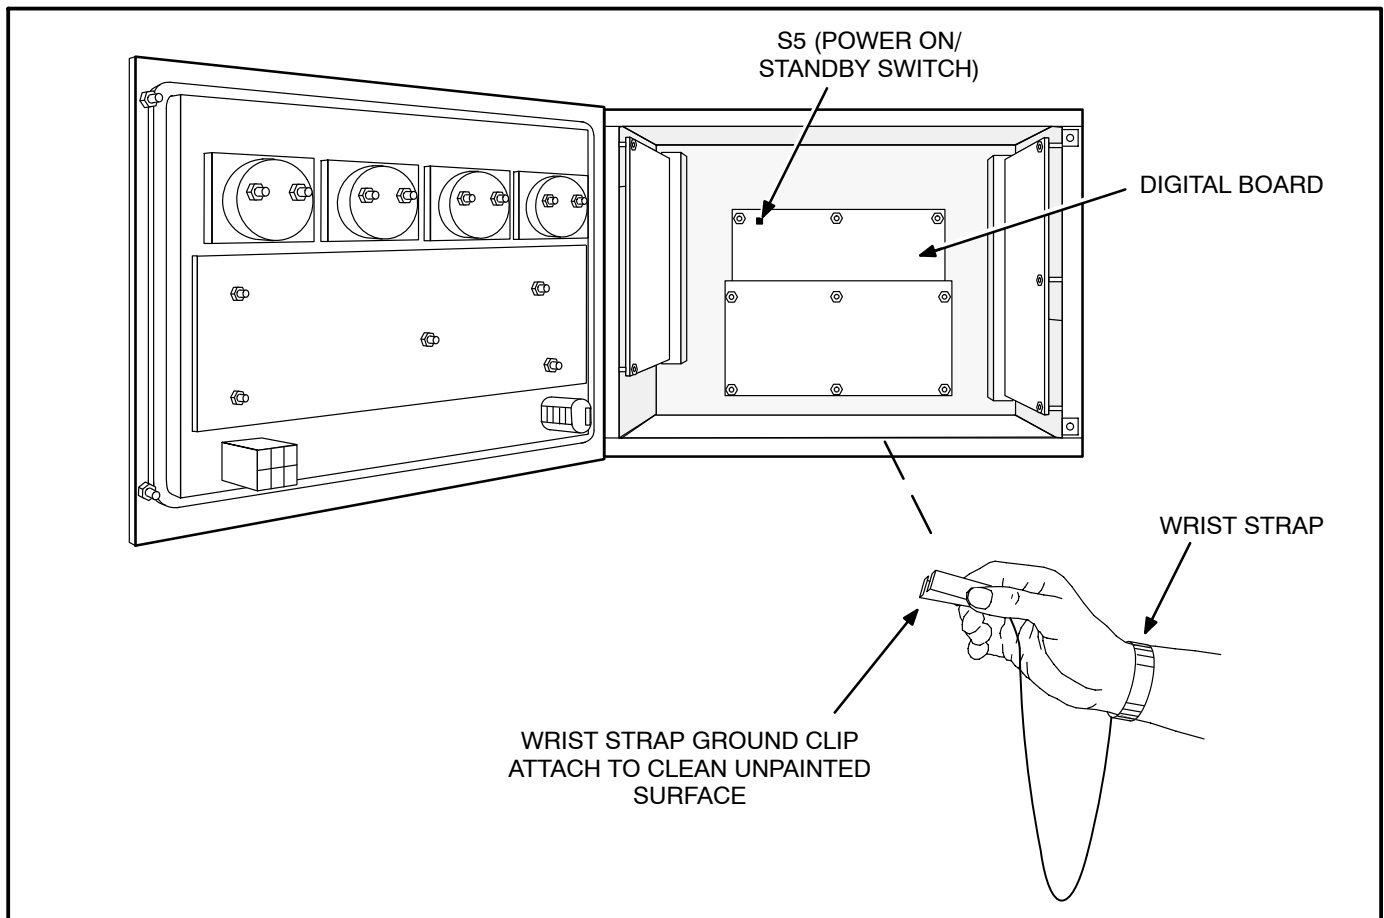

FIGURE 8-2. WRIST STRAP CONNECTION
The GCM is mounted inside the PCC housing. The GCM is powered from the genset battery. It remains powered even when the PCC is “asleep,” but it is recommended that the PCC “S5” switch (see Figure 8-2) is set to “AWAKE” at all times when a GCM is used.
Attach the clip to a clean unpainted surface of the control box (see Figure 8-2) and place the strap around your wrist before handling a circuit board.
4. Open the control box door. Connect the wrist strap ground clip as shown in Figure 8-2.